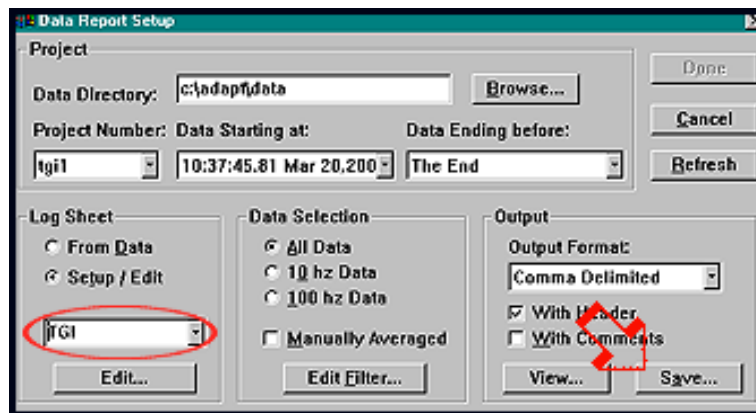

Figure 22
- 129 Under "Project" in the "Data Report Setup" window, select "TGI." See the circle in Figure 22. Select the "Save" Button. See the arrow in Figure 22.